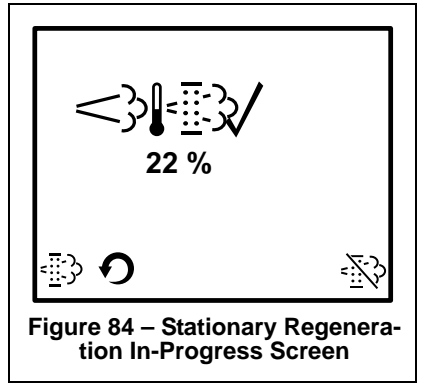

Figure 84 – Stationary Regeneration In-Progress Screen
- When all three checkmarks (A, B & C) are displayed on the Stationary Regeneration screen, press and hold the button (Z) until the Stationary Regeneration In-Progress screen displays (Figure 84)